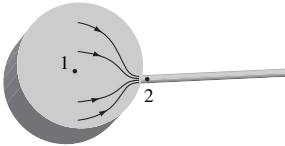

Figure 1.33: A tank and pipe viewed from above. The fluid enters a small cross section from the wide cross section of the tank.
When fluids flow through channels having varying cross sections, the flow speed changes from point to point along a flow line (Fig. 1.33). There is a pressure difference (called the Bernoulli pressure difference) associated with this change (the pressure decreases if the flow speed increases):
58. Explain why there should be a pressure difference associated with the situation represented in Fig. 1.33. What is the process associated with the pressure change?